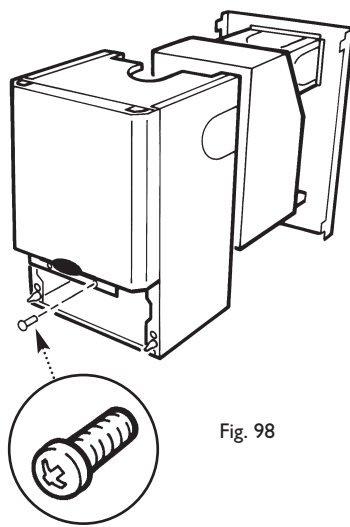

Fig. 98
6. Remove the outer case from the boiler by unscrewing the two screws and lift the case clear (Fig. 98).